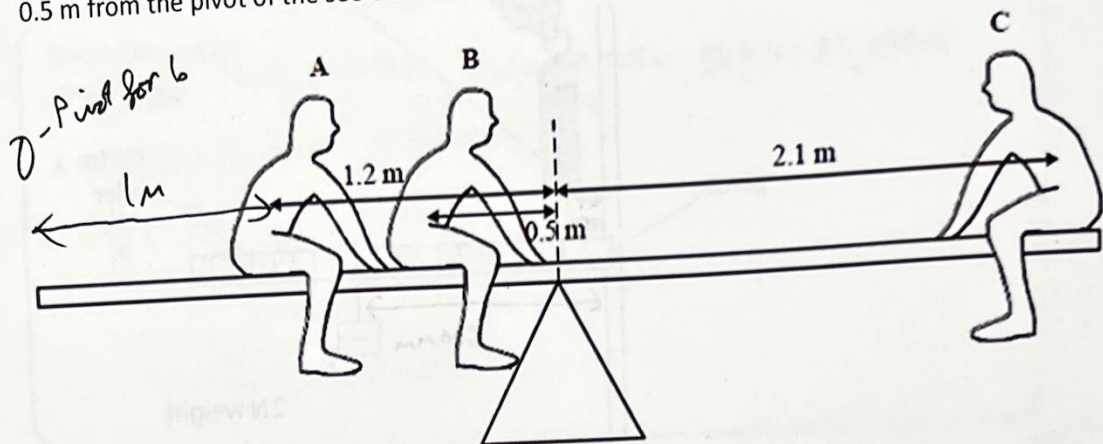

Figure 4
6. Figure 4 shows three children, A, B and C sitting on a balanced, horizontal see-saw of mass 35 kg. The centre of mass of the see-saw is vertically above the pivot.